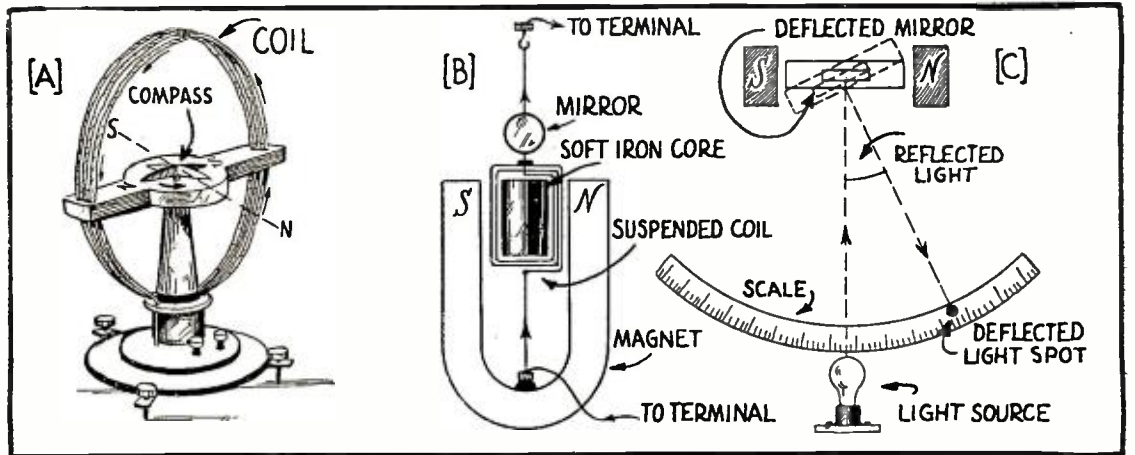

Figure 1. (A) Simple form of tangent galvanometer. (B) D'Arsonval galvanometer movement. (C) Light beam arrangement for amplifying movements of the mirror.
THE foregoing objectionable features of the original form of tangent galvanometer, led to its improvement by several men, but perhaps the most important improved form was that of D'Arsonval. This is called the D'Arsonval galvanometer, after its inventor, and is shown in simple form at (B) of Figure 1. Its construction and operation is as follows: